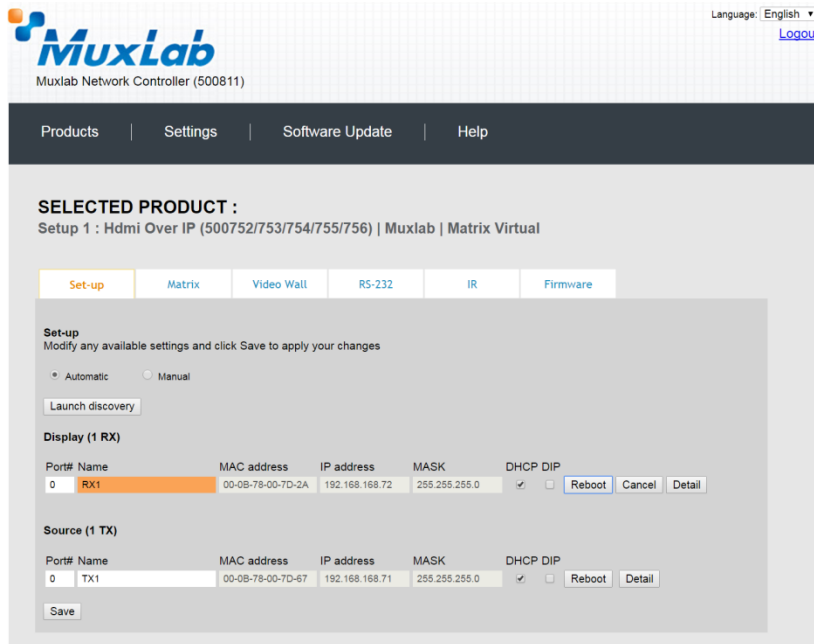

Figure 277: Name Editing
Each 500755-AMP transmitter and receiver can be assigned an arbitrary descriptive name, normally reflecting the end device that it is terminated to. To change the name of any speaker sink (RX) or audio source (TX) device, click the **Name** field to edit its contents. Several **Name** fields can be edited before saving changes, as shown in Figure 277 (orange highlighted fields).